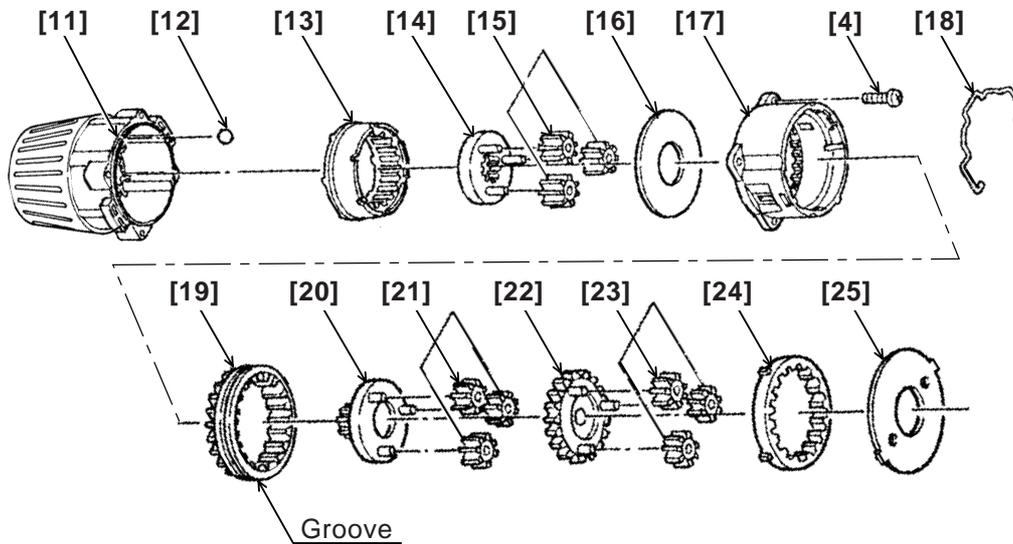

Fig. 6
(b) Install the parts series from the Steel Ball [12] to Washer (B) [25] into the assembly reassembled in step (2). (See Fig. 6.)